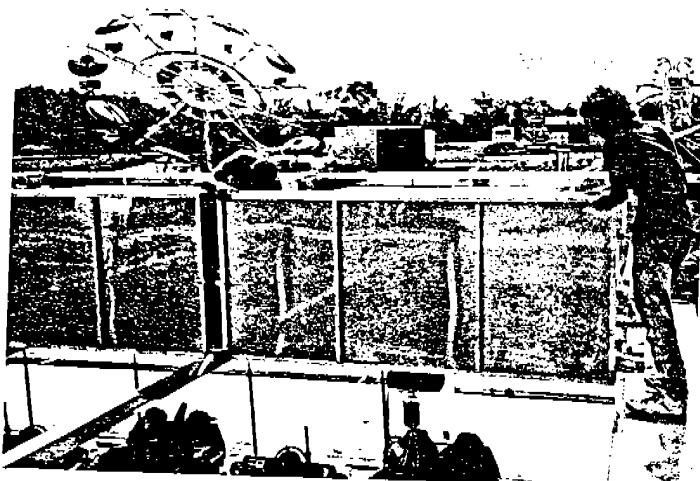

FIGURE 14
1. **LOWERING CEILING PANELS:** After all catwalks and rafters are in place, the ceiling panels may be lowered. (See Figure 14). Remove racking bolts while holding onto panels. Slowly lower the first panel to the rafters. Push it out slightly and let the next panel roll out. Follow this procedure on all ceiling panels. Remove panel racks at front and rear of top assembly.